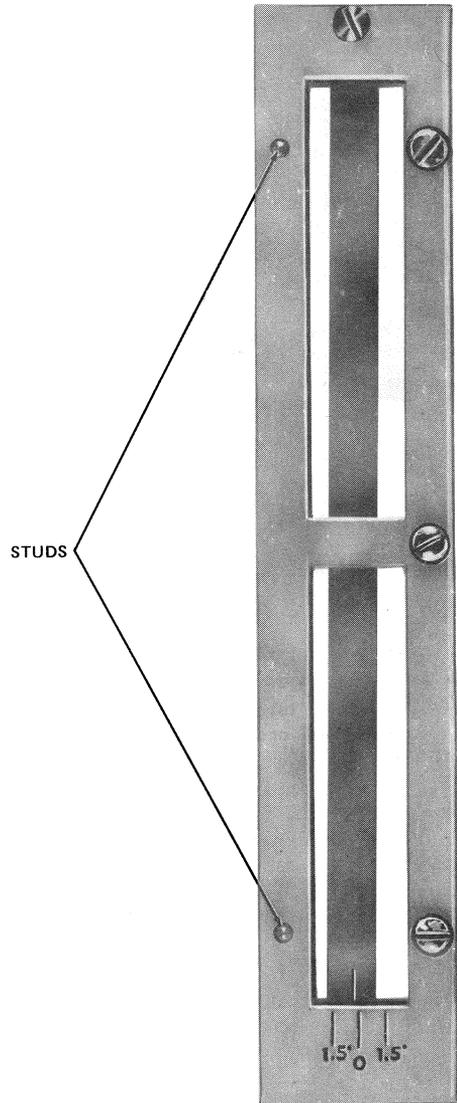

Fig. 7—KS-22473 Leveling Device
A. KS-22473 Leveling Device (Fig. 7)